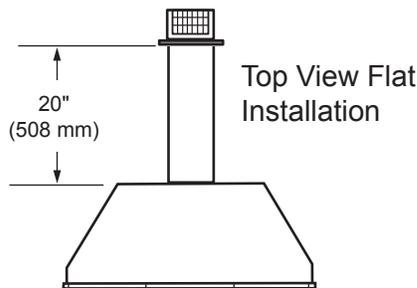

Figure 17 - Rear Vent Application, Maximum Horizontal Distance
- The maximum horizontal distance between the rear of the appliance and the outside face of the rear wall is 20" (508 mm). *Figure 17*